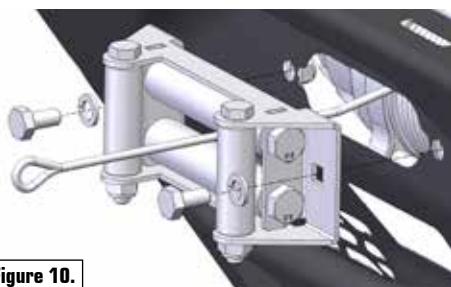

Figure 10.
11. Assemble the Roller Fairlead to the bumper previously removed in **Step 4**. See Figure 10. Fasten using (2x) M10 x 20mm Hex Bolts, (2x) M10 Lock Washers, and (2x) M10 Nylock Nut included with the hardware kit.